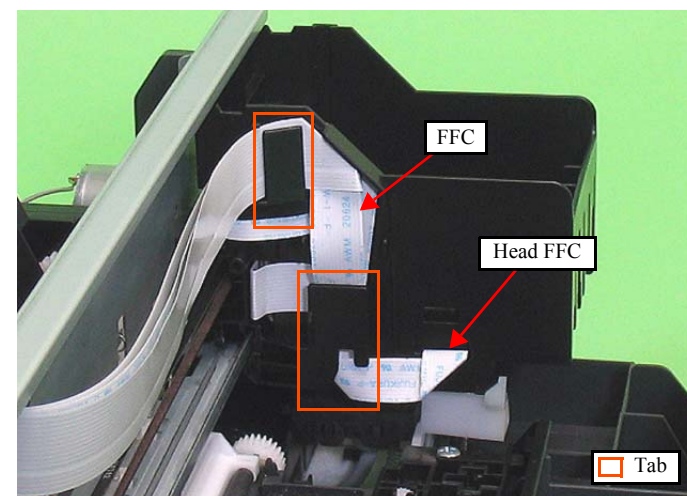
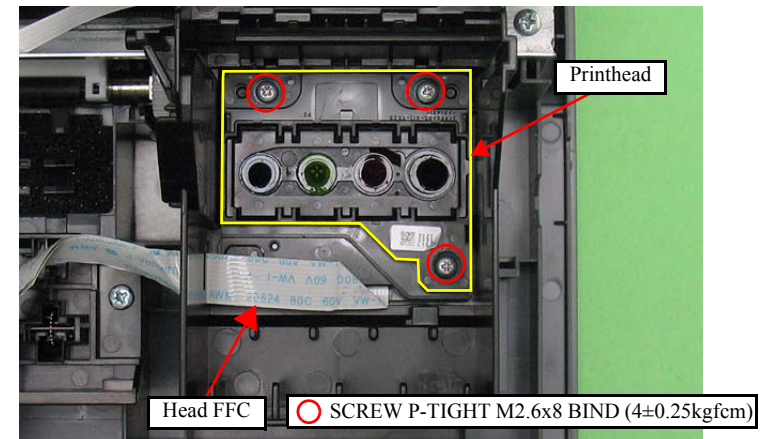

Figure 4-27. Removing the Printhead (2)
Figure 4-31. Removing the Printhead (6)
- When installing the FFC, route it through objects as shown in Fig.4-27 and Fig.4-31.